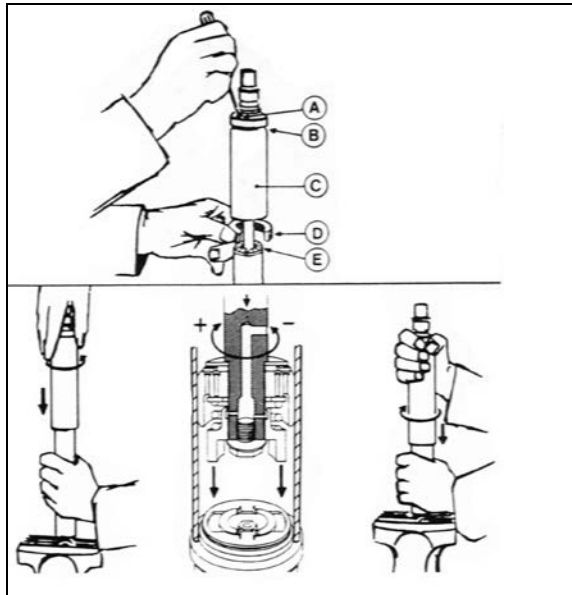

FIGURE 31: DAMPER
To adjust opening and closing cycle speed on damper (Figure 31):
the recesses of the foot valve assembly (Figure 31).
In Figure 31, if there is an indentation (B) in the dust cap (C) and the cover shows two holes (A), the damper is fitted with a bump rubber (D). If so, fully extend the damper and insert a round bar or screwdriver through the holes. Push the bump rubber down and remove. Remove the split plastic collar (E) (if fitted) from the piston rod.
Where a bump rubber was installed, refit same inside the dust cap and by fully closing the damper, the rubber will seat again at top of the dust cap. Refit the split plastic collar E (Figure 31).